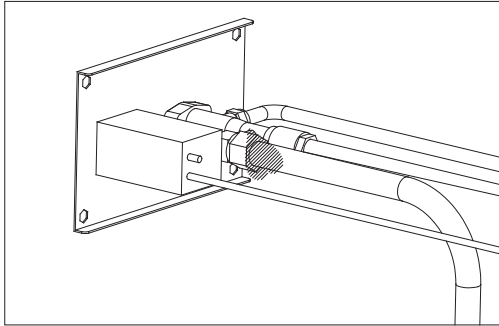
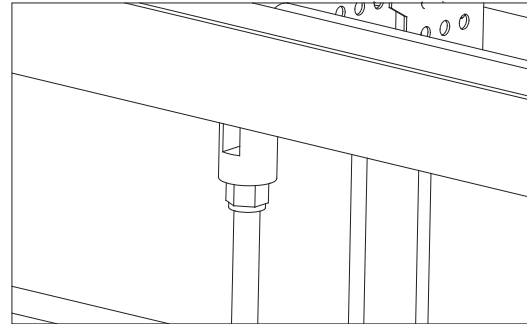

Figure 10
Figure 11
3. Apply several drops of solution where gas valve attaches to bellows (see Figure 9) . where gas valve attaches to hose (see figure 10), and where inlet tube attaches to billows (see Figure11). If NO bubbles appear, the connection are secure .If bubbles appear, the connection has the leak, disconnect, reconnect, perform another leak check. If you continue to see bubbles after several attempts, the part is defective and should replace the part.